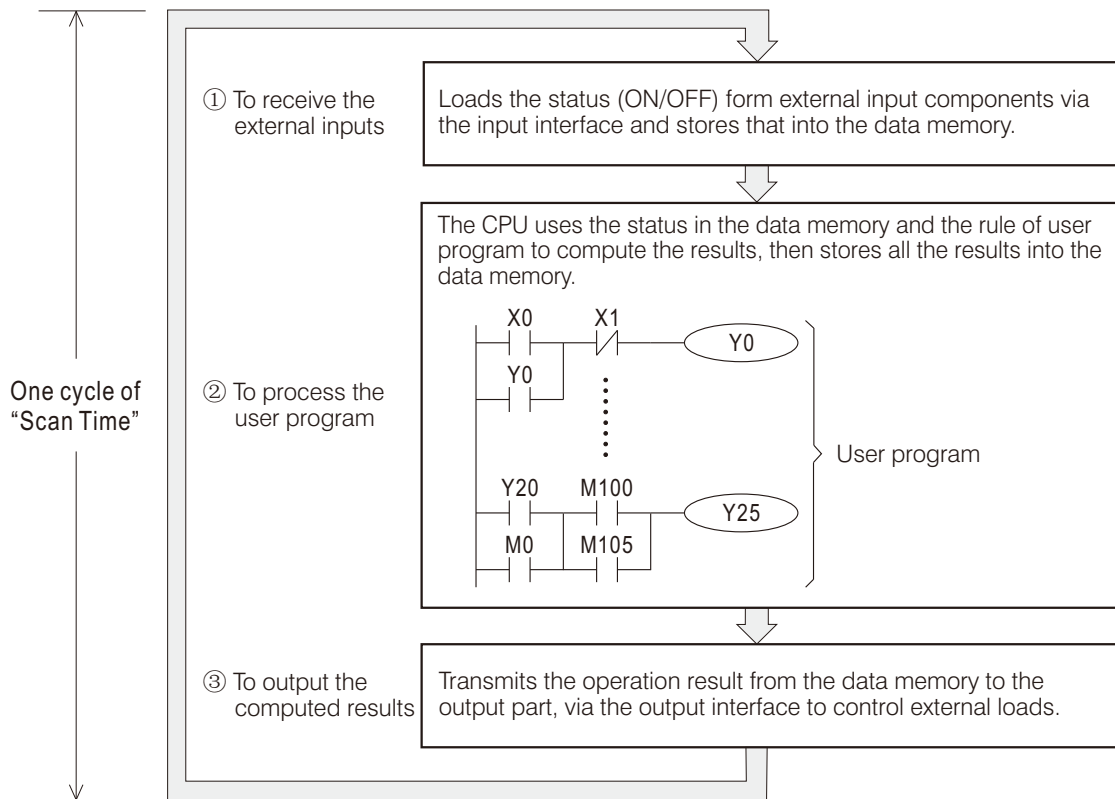

Fig. 1-2 PLC operation order and scan time
The PLC systems use microcomputer technology to achieve the purpose of simulating traditional relay control panel. The microcomputer first reads the external inputs and then sequentially scans and executes the user program, so as to calculate the control result that the user wants to achieve. Finally, it outputs the result to drive the external loads and performs the real control action. The PLC execution order is shown in Fig. 1-2. The PLC will sequentially execute the cycle (① receive external inputs; ② process the user program; ③ output the computed results). Then, the time spent for one cycle is called a "Scan Time".